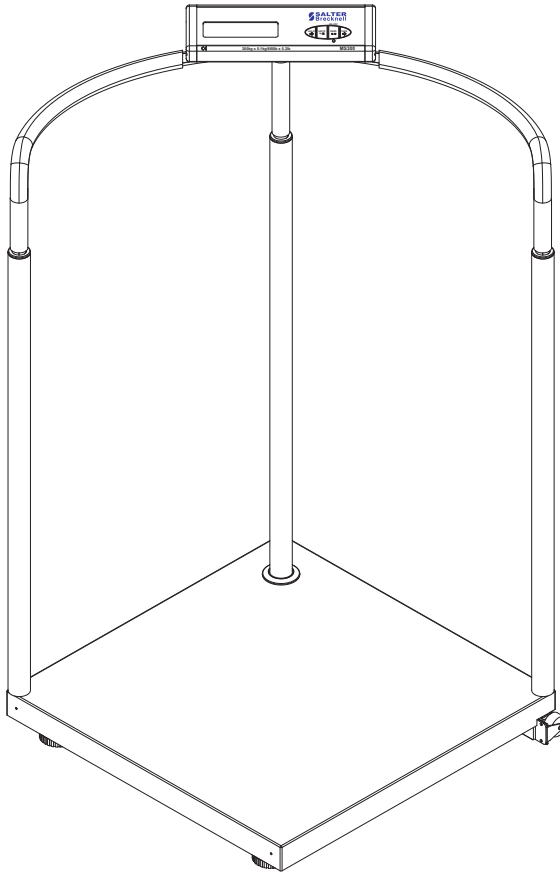

Figure 5
7. Insert the ends of the handrail into outer support posts. See figure 5. □